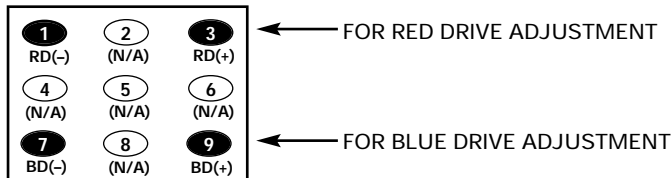

Figure 6. Remote Control Number keys' functions in Service Menu NO. A8 DRV
12. Adjust Red and Blue Drive Levels alternately with 1, 3, 7, or 9 key to produce normal black and white picture in highlight areas. See Figure 6.